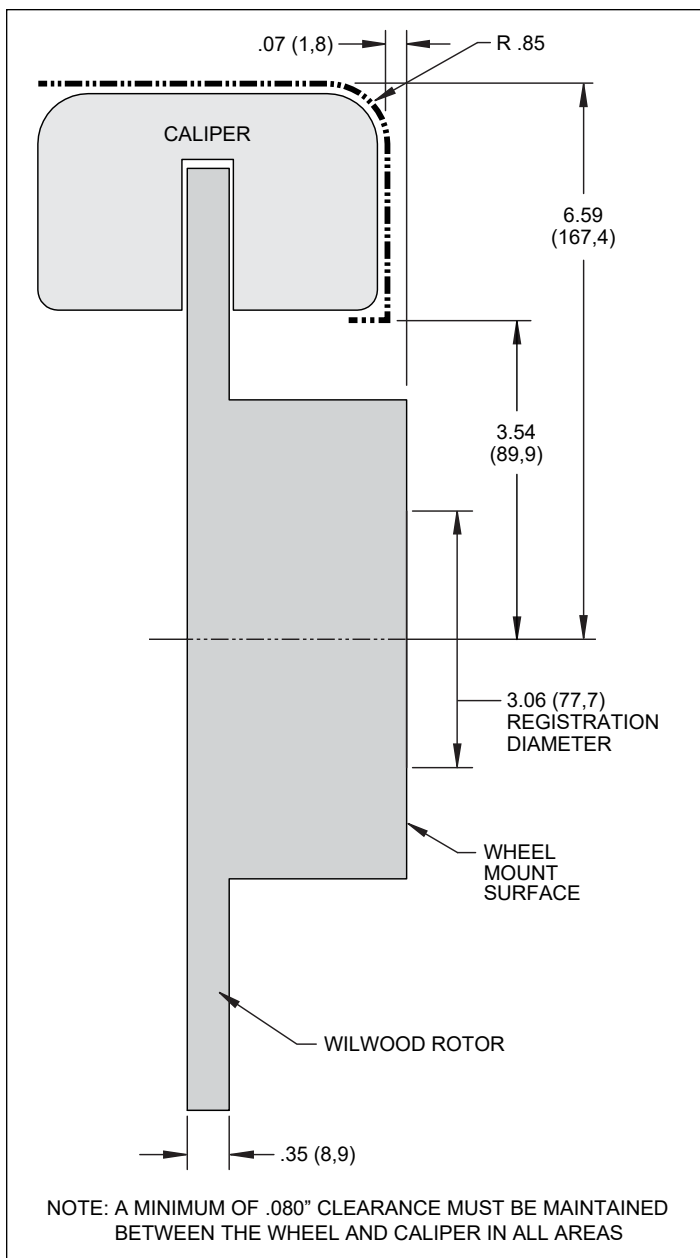

Figure 3a. Wheel Clearance Diagram (p/n 140-17873-D)
- Review the Wheel Clearance Diagram (Figures 3a or 3b, page 4) to verify that there is adequate clearance with the wheels you will be using with the installation.
• Verify wheel clearance using Figures 3a or 3b.